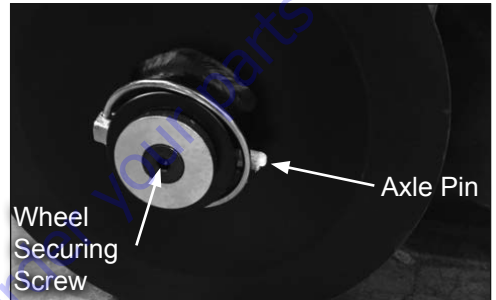

FIG. 2
5. Disengage and remove axle pin (Figure 2).
6. Remove wheel-securing screw with a 5/16" hex wrench (Figure 2).